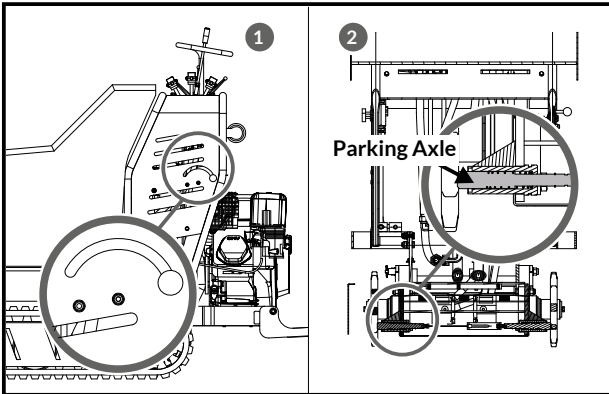

Figure 24
Adjusting parking cable (figures 24 - 26)
- A. If the parking lever is turned to the position shown in figure 24 (1) and the parking axle is still in the parking state shown in figure 24 (2), follow the steps below to adjust the parking cable: